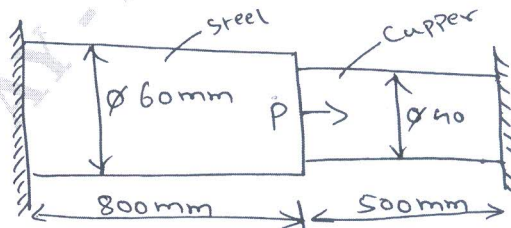

Fig.Q3(a)
- 3 a. Determine the nodal displacement, stress in each element and support reaction in the bar shown in Fig.Q3(a) due to applied load $P = 100\text{kN}$ take $E_{\text{steel}} = 200\text{ GPa}$; $E_{\text{Cu}} = 100\text{ GPa}$.